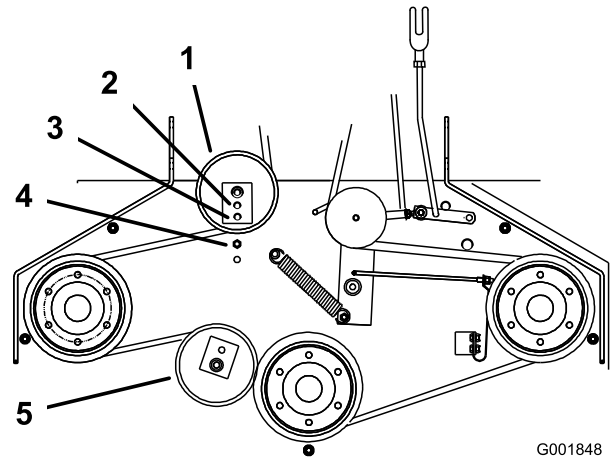

Figure 45
6. If there is no adjustment left in the turnbuckle and the belt is still loose, the rear idler pulley needs to be positioned to the middle or front hole (Figure 45). Use the hole that will give the correct adjustment.
7. When the idler pulley is moved the belt guide must be moved. Move the belt guide to the front position (Figure 45).